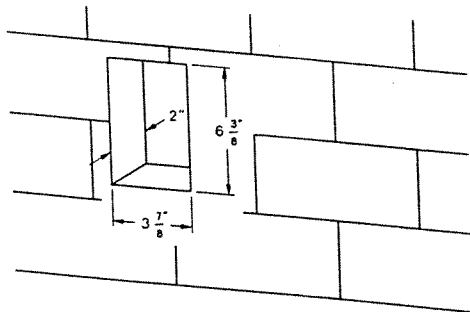

FIGURE 1b
- D) See figure 1b for outdoor ring (OB-1000) installation.